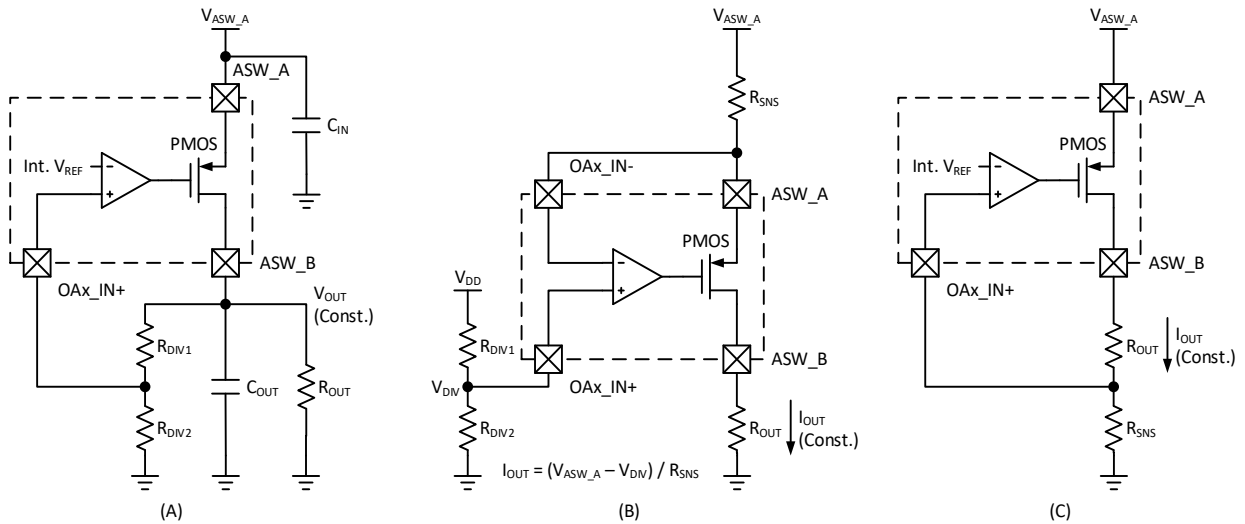

Figure 71. Typical Implementation of Voltage Regulator (A) and Current Sources (B and C)
In this mode, the OpAmp output is used to drive gate voltage for the PMOS of the analog switch. The OpAmp switch control mode is enabled by setting the  $ASW\_MODE$  bit to ‘1’. When the OpAmp switch mode is disabled ( $ASW\_MODE = 0$ ), the output of OpAmp0 ( $OA0\_OUT$ ) is disconnected from the gate of the PMOS. Figure 71 \(A\) shows a typical implementation of the voltage source function. Optionally, this mode can be used to implement a constant current-source with load connected to ground as shown in Figure 71 \(B\) and (C).